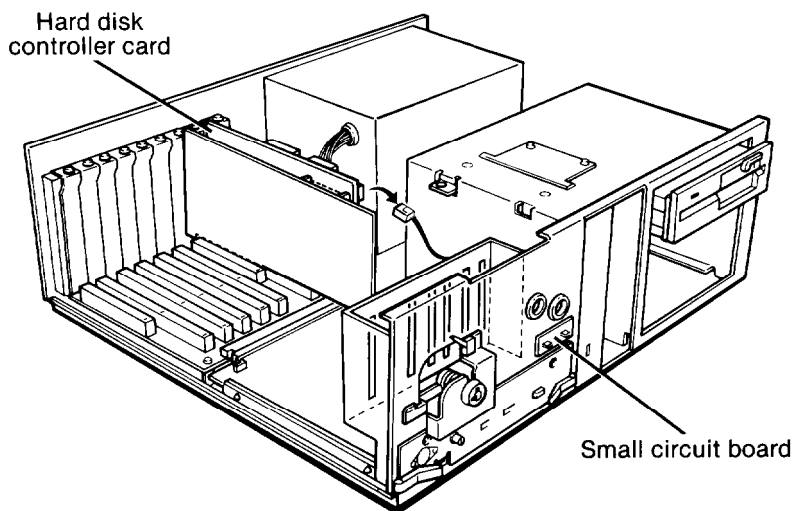

Figure A-6. Unplugging connector CN6 from hard disk controller card
3. The small circuit board (on the front of the computer), which contains the power and hard disk LEDs, is connected to the hard disk controller card by a black and red twisted cable. Unplug the connector from the hard disk controller card-the connector is labeled CN6 on the card-as shown in Figure A-6, and lay the cable to one side.